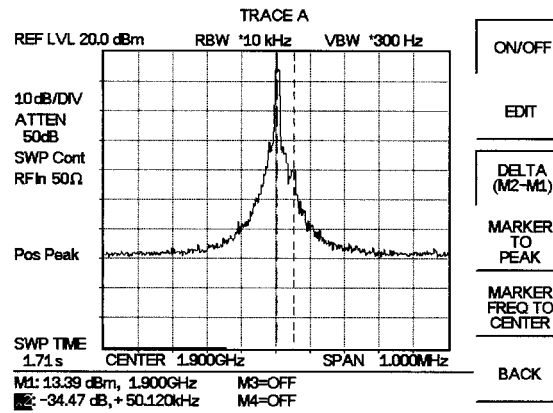

Figure 5-12. Measurement of Two Signals Having Unequal Amplitudes
- Step 6.** Change the frequency in the second source from 1900.100 MHz to 1900.050 MHz gradually and observe the effect. Figure 5-12 shows the results with the two signals spaced 50 kHz apart using a signal combiner/splitter with a loss of 6 dB.